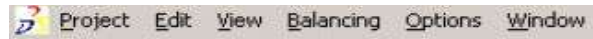

Figure 6: Automatic Line Balancing Menu Bar
- (1) Menu bar. *Please refer to the Figure 6.*